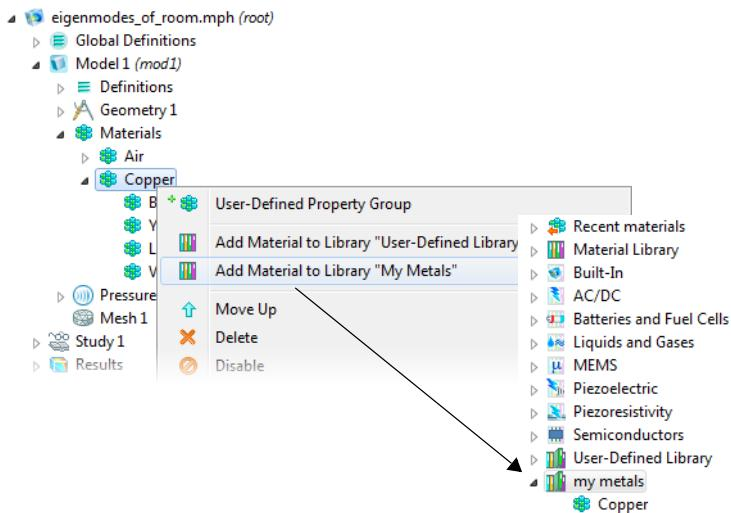

Figure 8-3: Adding a predefined material to a new user-defined library.
- 3** Right-click to **Rename Selected** material (as required) that has been added to your library. See Figure 8-3.